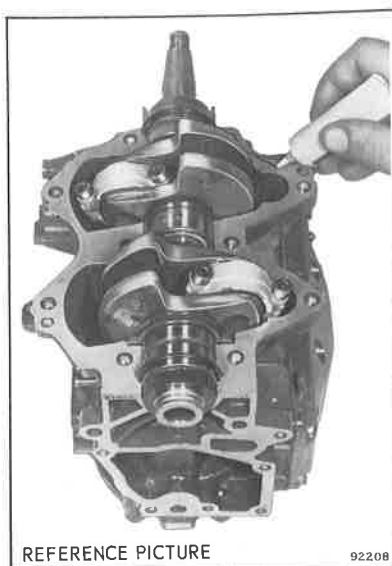

Figure 5-27. Applying Sealer
a. Apply a thin line of Sealer 1000 to crankcase face. **DO NOT** over-cement; excess will squeeze over to foul oil channels, etc. See Figure 5-27.